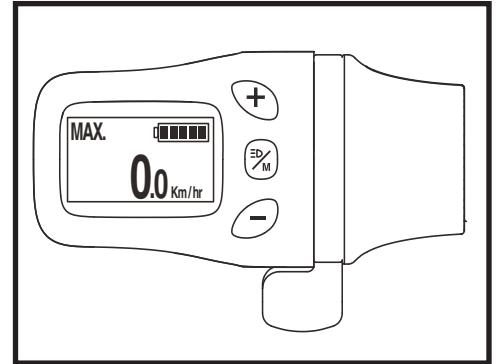

Figure 16. Battery Condition Meter
The battery condition meter on the throttle console indicates the approximate strength of your battery using a battery icon. At full charge, the icon will display five (5) bars indicating a fully charged battery. With continued use, the bars will begin to disappear as your charge drains. Once the icon is down to displaying only one bar, an immediate recharge is necessary. **See figure 16.** To ensure the highest accuracy, the battery condition meter should be checked while operating your scooter at full speed on a dry, level surface.